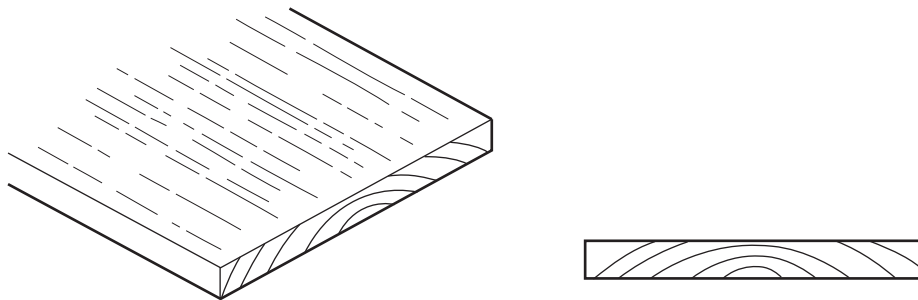

Fig. 11.5
- (ii) Fig. 11.5 shows views of part of a table top made from solid wood.
Sketch, onto Fig. 11.5, to show what could happen to the shape of the solid wood table top if it was seasoned incorrectly. [2]